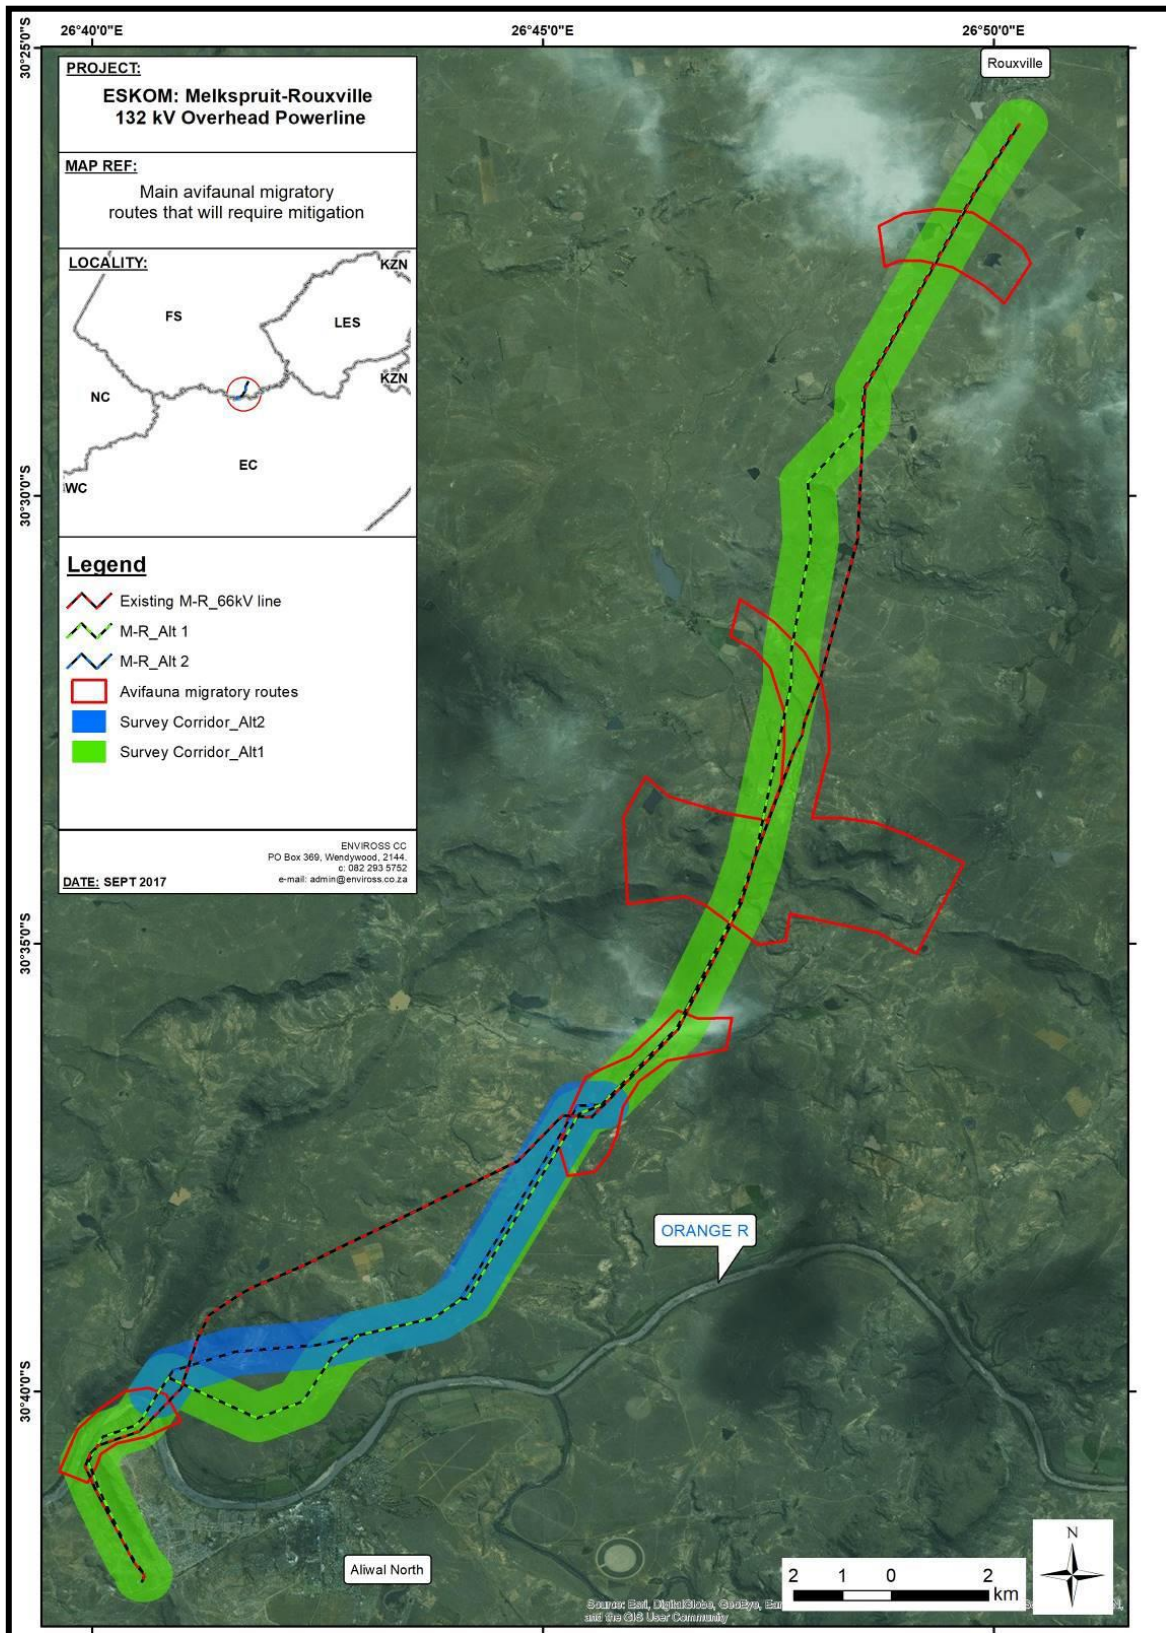

Figure 8: Avi-faunal Migratory Routes
Figure 8: Avi-faunal Migratory Routes	10
- Avifaunal migratory routes and zones have been identified along the powerline route. The fitment of bird flappers must be undertaken in these areas to limit fatalities caused by collisions with the overhead line as shown in *Figure 8* below.
The avi-faunal migratory routes are shown in *Figure 8* below.